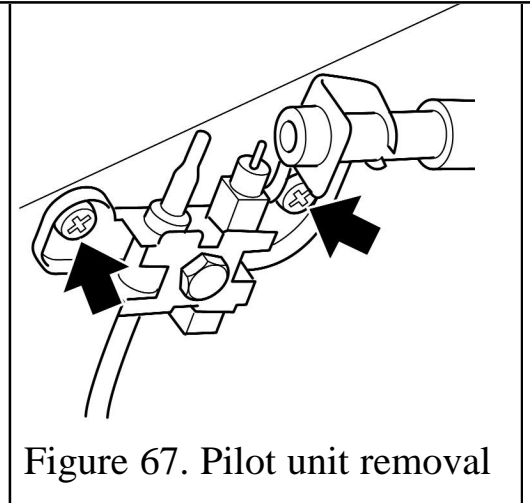

Figure 67. Pilot unit removal
5. Remove the two screws securing the pilot unit (See figure 67).